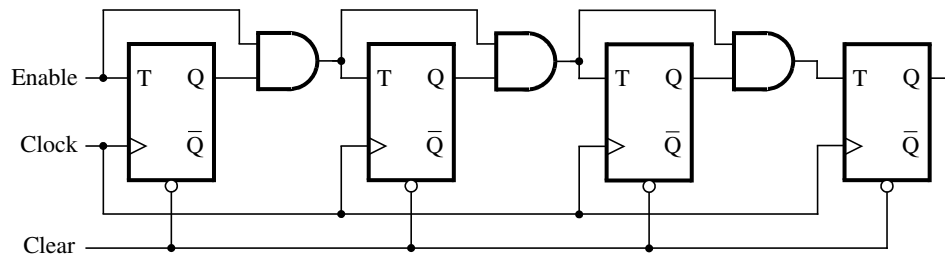

Figure 1: A 4-bit counter.
Consider the circuit in Figure 1. It is a 4-bit synchronous counter which uses four T-type flip-flops. The counter increments its value on each positive edge of the clock if the *Enable* signal is asserted. The counter is reset to 0 by setting the *Clear* signal low – it is an active-low asynchronous clear. You are to implement an 8-bit counter of this type.
1. Write a Verilog file that defines an 8-bit counter by using the structure depicted in Figure 1. Your code should include a T flip-flop module that is instantiated 8 times to create the counter (i.e. structural Verilog). Compile the circuit. How many logic elements (LEs) are used to implement your circuit? What is the maximum frequency,  $F_{max}$ , at which your circuit can be operated? (Use TimeQuest in Quartus to determine the maximum frequency  $F_{max}$ .)
5. Use the Quartus II RTL Viewer to see how Quartus II software synthesized your circuit. What are the differences in comparison with Figure 1?